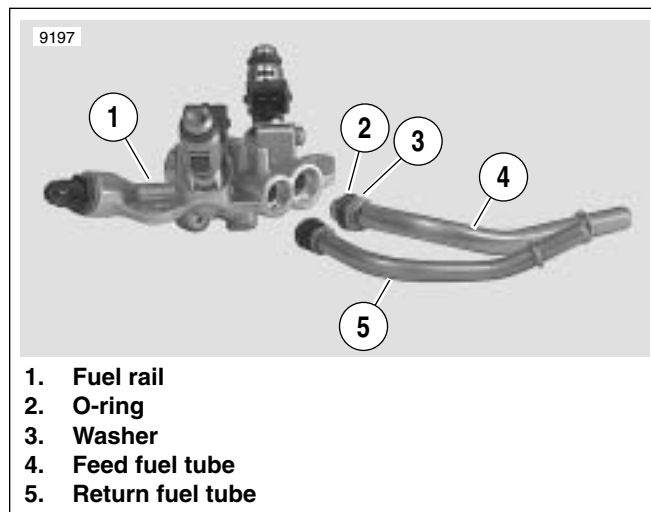

Figure 4-40. Fuel Tubes
2. Remove fuel pressure regulator clip (4) from fuel rail.
3. See Figure 4-40. Pull feed (4) and return (5) fuel tubes from fuel rail.
1. See Figure 4-40. Install washers (3) over fuel tube.
2. Apply **clean** engine oil to **new** fuel tube o-rings (2).